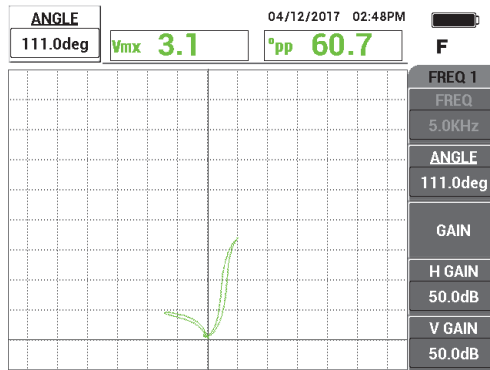

Figure 5-185 Adjusting the signal phase
4. Press the ANGLE key () , and then rotate the signal until the OD groove signal reaches a phase of approximately 10° (see Figure 5-185 on page 259).